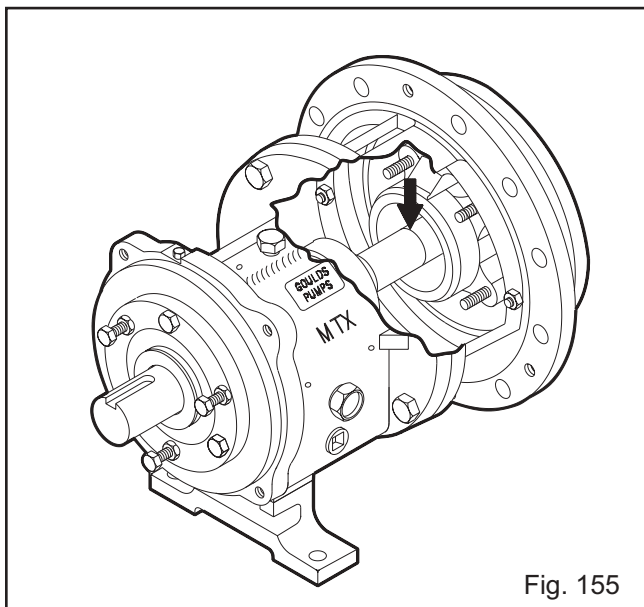

Fig. 155
8. Blue the shaft sleeve (126) or shaft (122) if no sleeve is used. Scribe a mark at gland gasket face of seal chamber/stuffing box cover (184). This will be the datum for installation of mechanical seal (Fig. 155).